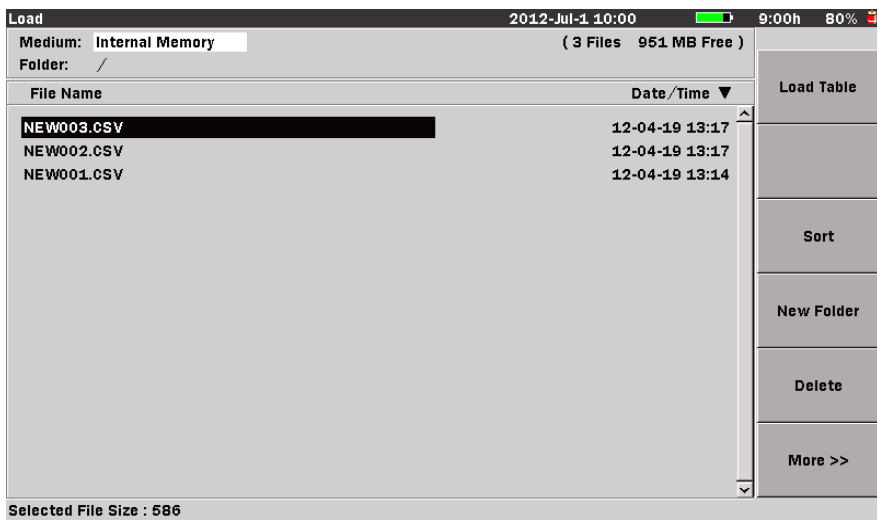

Figure 9-9: Load screen – Loss Test Set mode
Use either the Save screen (see Figure 9-8 on page 9-20) or the Load screen (see Figure 9-9 on page 9-25) to delete any data files stored in the internal memory or on a USB memory stick. You can delete a single file, multiple files or all of the files in the current directory.
1. Press the **Save key**, or the **File key**, if not already displaying either the Save screen (see Figure 9-8 on page 9-20) or the Load screen (see Figure 9-9 on page 9-25).
Use either the Save screen (see Figure 9-8 on page 9-20) or the Load screen (see Figure 9-9 on page 9-25) to copy data files stored in the internal memory or on a USB memory stick. You can copy a single file, multiple files or all of the files in the current directory.